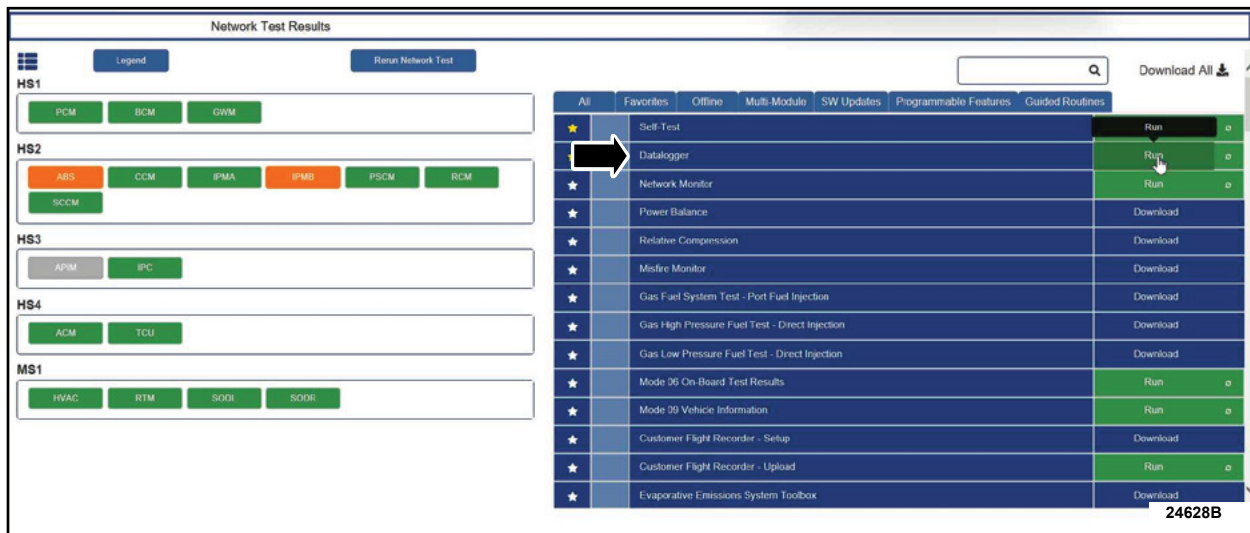

FIGURE 6
15. On the RH side of the screen, locate datalogger and click **RUN** to open a new tab. See Figure 6.